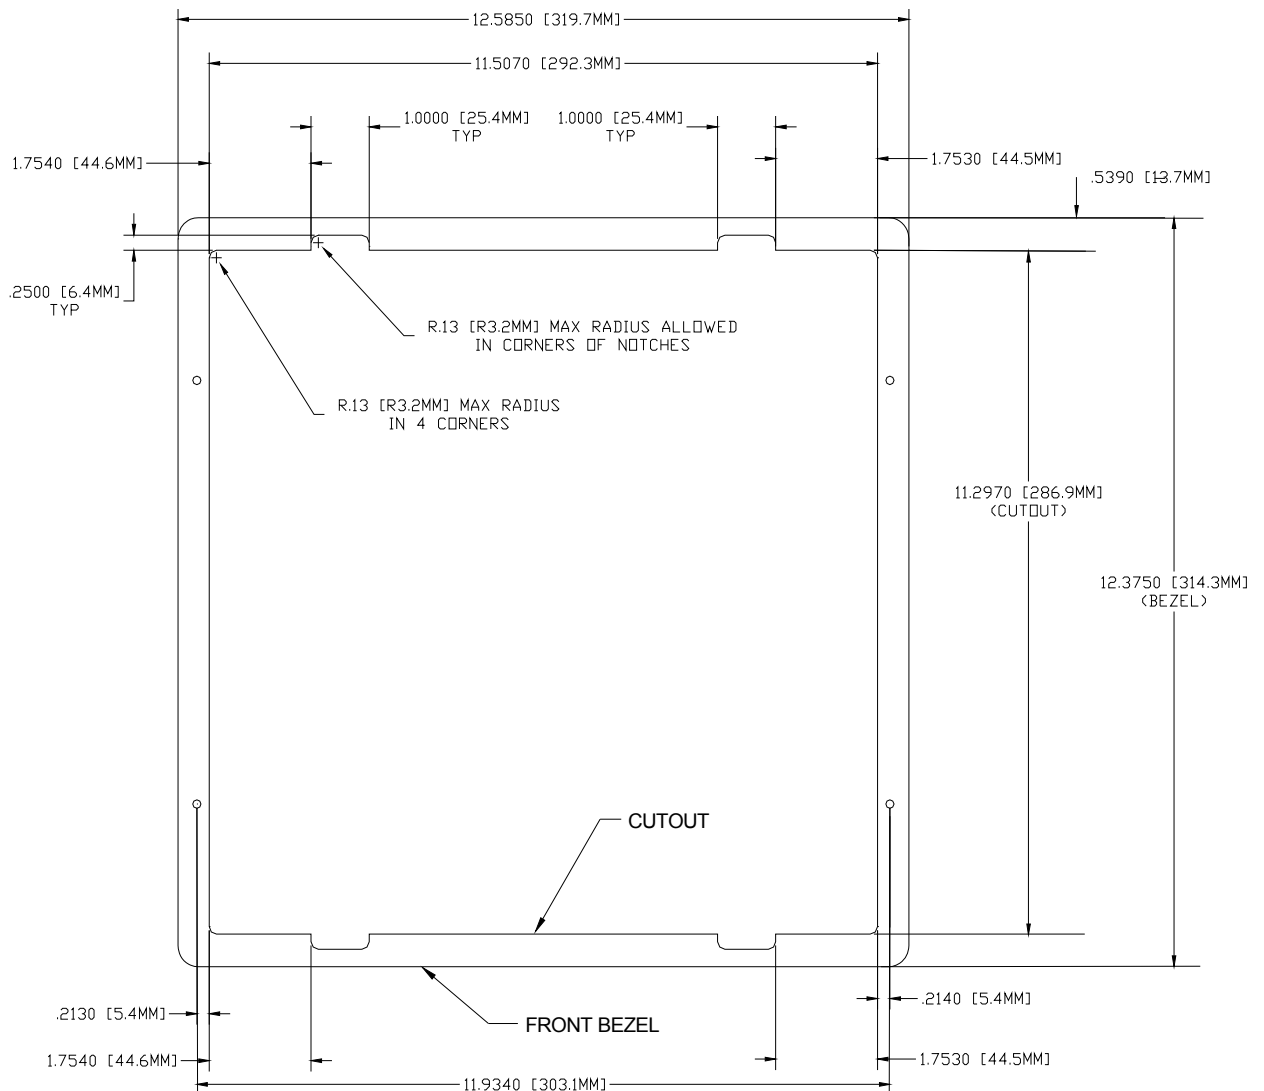
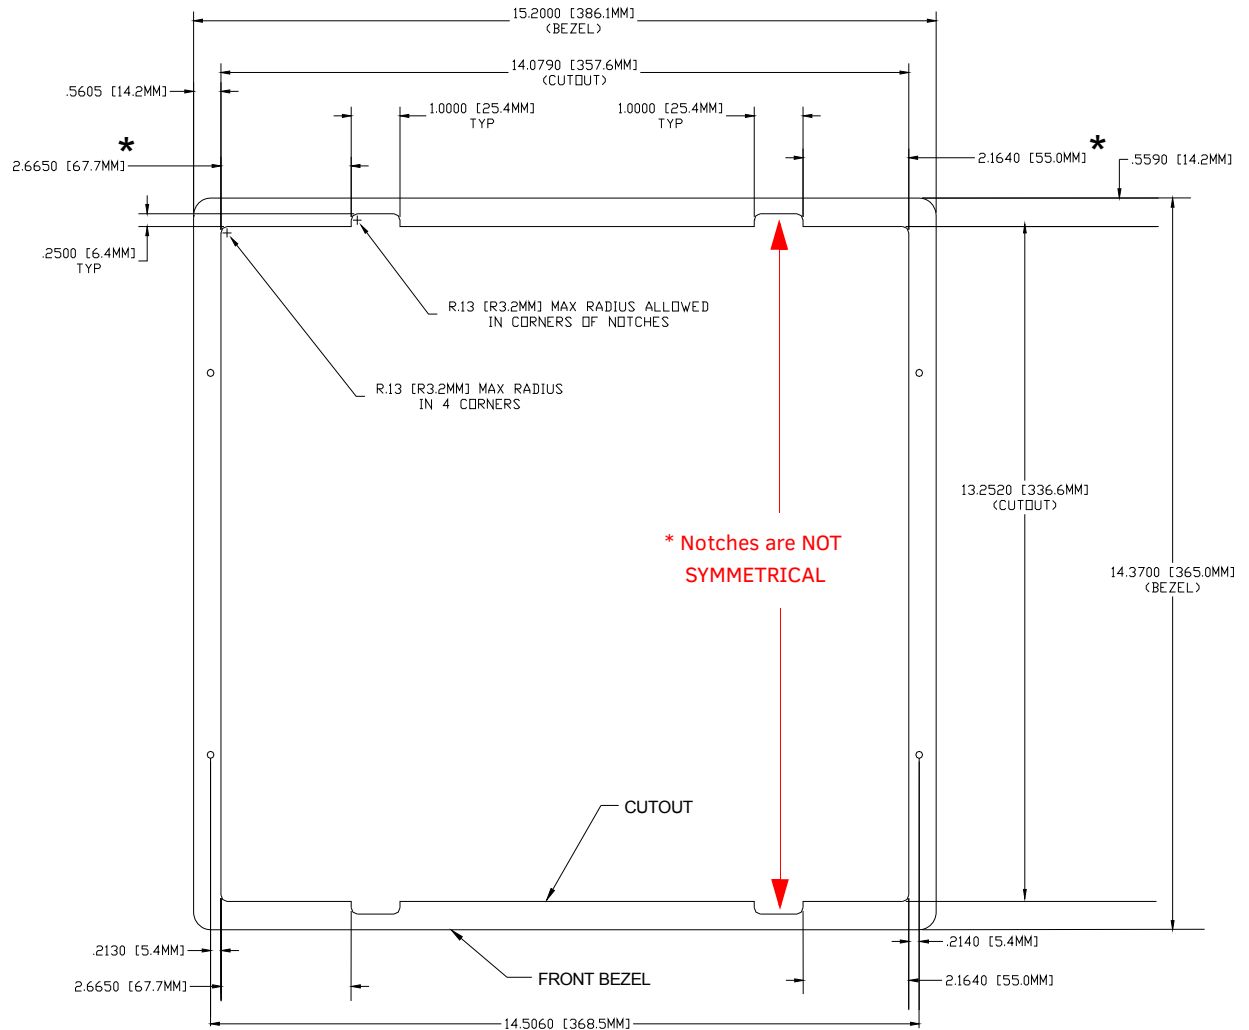

FIG. 40 NXD-1200VG 12-inch Wall Mount panel dimensions using expansion clips
FIG. 41 NXD-1500VG 15-inch Wall Mount panel dimensions using expansion clips
2. Cut out the surface for the *12-inch Wall Mount* using the dimensions shown in FIG. 40 and for the *15-inch Wall Mount* using the dimensions shown in FIG. 41. Be sure to cut out the four notches along the top and bottom areas to accommodate the four drywall expansion clips (provided).
8. Insert the four sets of drywall screws and expansion clips into the four oval notch locations along the top/bottom edges of the main unit (FIG. 41).
9. Carefully insert the main unit (with expansion clips) into the cutout until the Mounting Tabs on the NXD unit lie flush against the wall (FIG. 41).